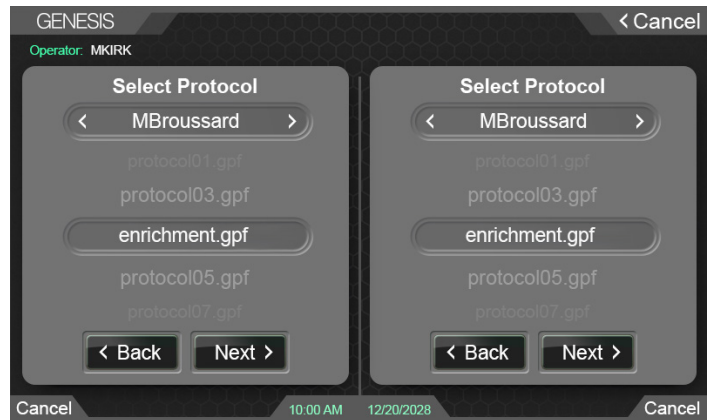

Fig. 20. After a successful Self Test, the protocols can be selected.
- When the Self Test is complete, select the Enrichment option from the protocol dropdown list (Figure 20).